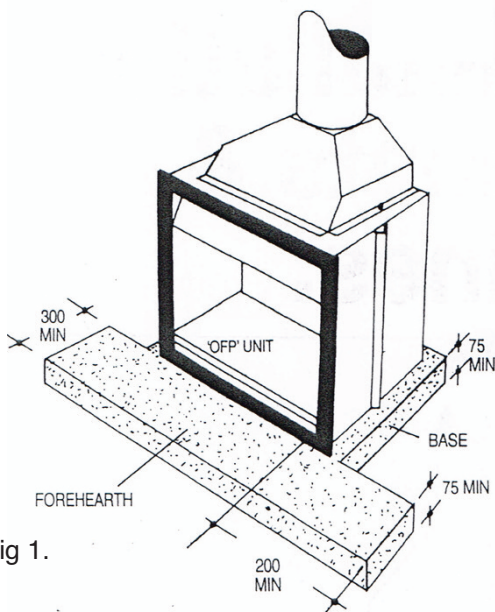

Fig 1.
Base & Forehearth Requirements. (Fig 1.)
1. Position unit on finished hearth base. Do not restrict air intake at base of unit. (Refer minimum requirements, Base & Hearth Fig1.)